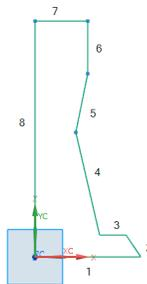

Figure 3-62 The sequence for drawing the profile
- Follow the sequence given in Figure 3-62 for drawing the sketch. Draw the other entities of the sketch. For better understanding, the sketch has been numbered and temporary dimensions have been hidden.